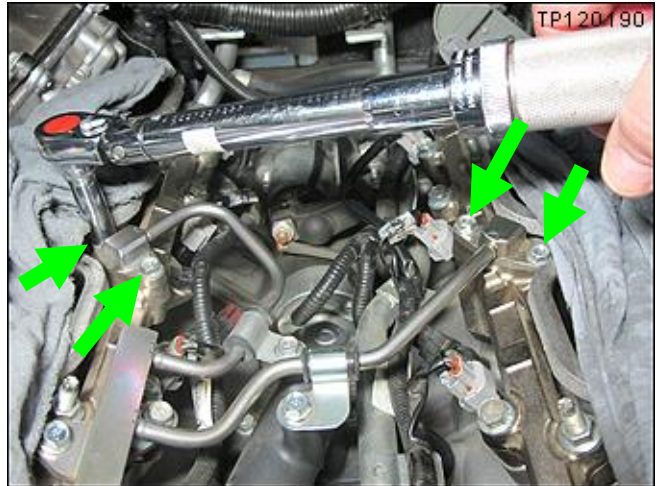

Figure 15
21. Torque the bolts shown in Figure 15: